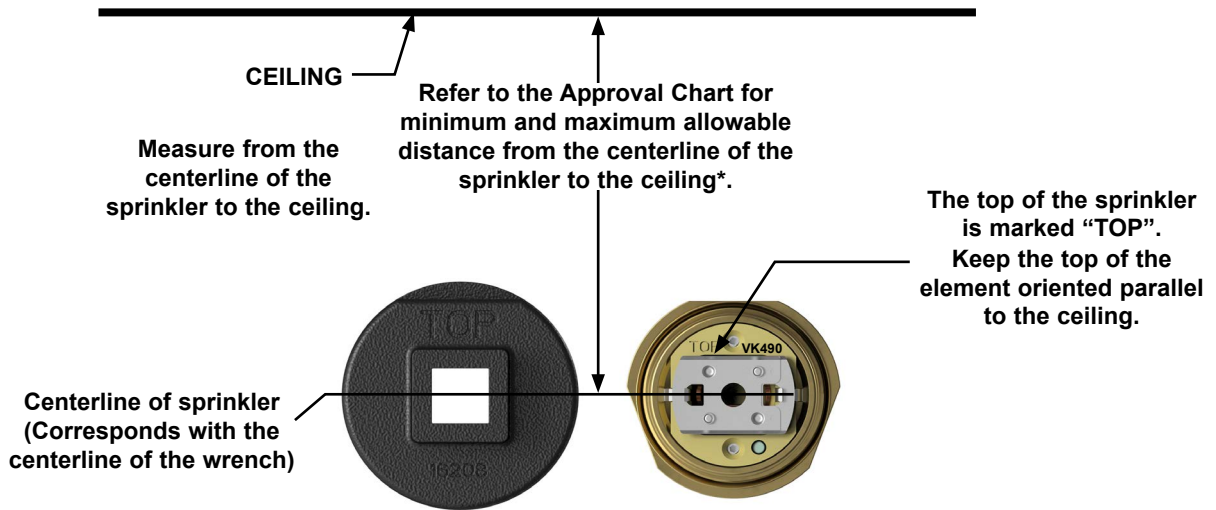

Figure 3: Sprinkler VK490 Correct Deflector Orientation
- **THE TOP OF THE SPRINKLER BODY AND THE TOP OF THE INSTALLATION WRENCH ARE MARKED “TOP”**. Orient the top of the sprinkler element parallel with the ceiling as shown in Figure 3.